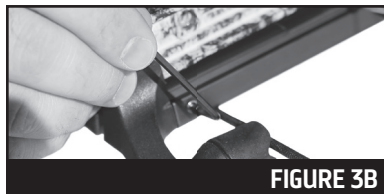

FIGURE 3B
5. If you do not have an assembly package with socket head cap screws, skip to step 6. Install the two (2) socket head cap screws into both sides of the arrow/flight track to secure the string dampeners. Using the proper hex keys, tighten the nose bolt and socket head cap screws on either side of the arrow/flight track as shown in Figure 3B.